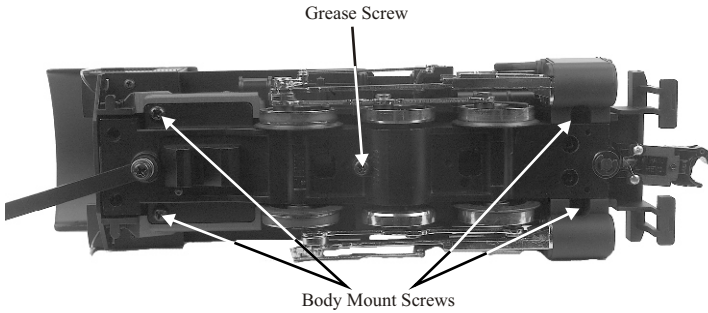

Figure 3: Greasing points on the engine and location of body mount screws
1. Unscrew the Grease screw as shown in Figure 3 and use an applicator to apply grease into these screw holes.
3. Remove the boiler shell as shown in figure 3 on page 10.